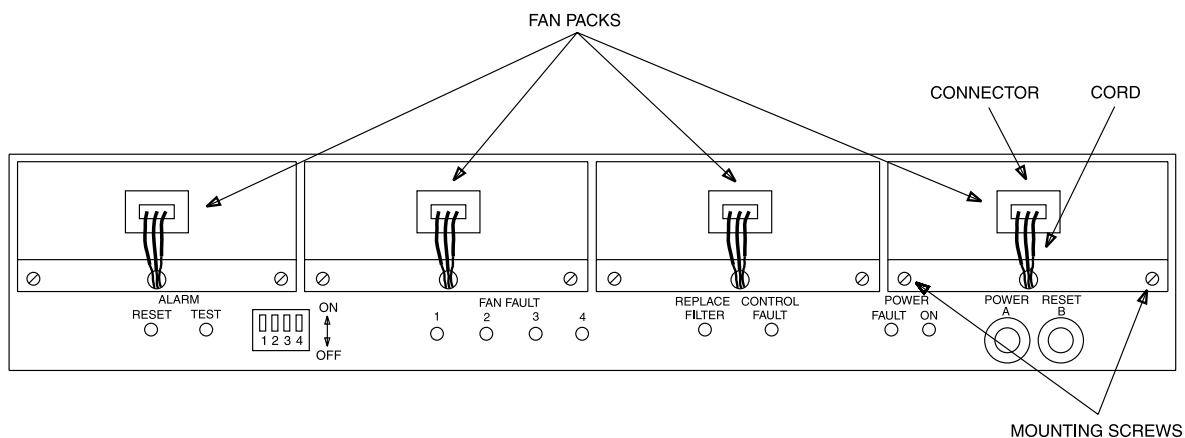

Figure 1 – DDM-2000 Fan Shelf — Front Cover Removed
6. Locate 4-part switch to left of center on front of fan shelf. See Figure 1.